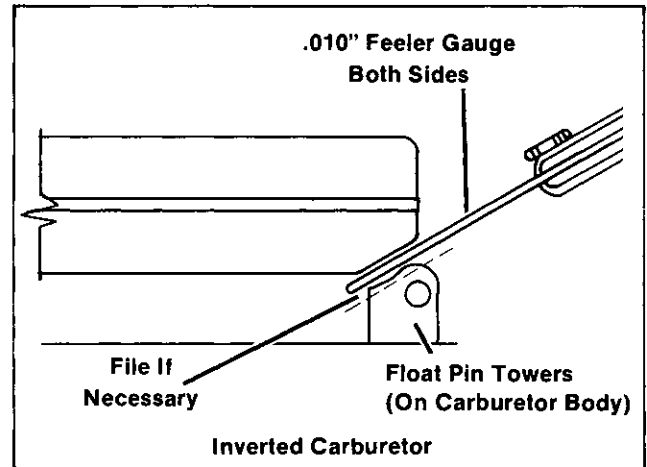

Figure 4-6. Checking Float Clearance
4. **Check float clearance.** Invert carburetor—check clearance between float and float pin towers with a  $.010"$  feeler gauge. If feeler cannot be inserted or if there is interference between the float and towers, file the towers to achieve proper clearance. See Figure 4-6.